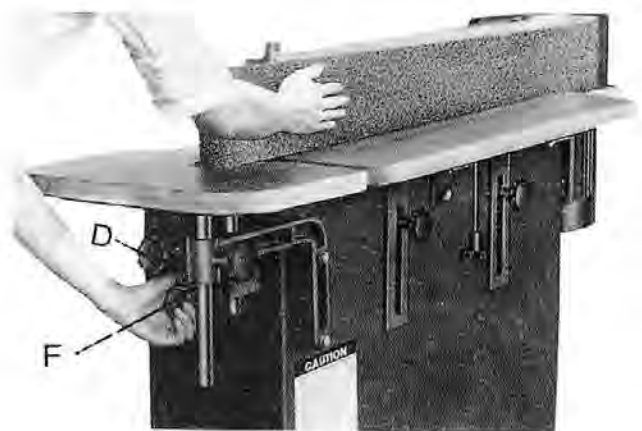

Fig.5.
5. Place the new abrasive belt between the contact wheel and idler pulley, then adjust the tension adjustment knob (D). Counterclockwise will maximize the tension, clockwise will minimize it.
6. Rotating the abrasive belt along the correct direction with one hand Fig. 5, you can test whether the abrasive belt tracking is correct or not on the machine, with your other hand correct the adjustment by using the track adjustment knob (F). If you want to lower the abrasive belt, rotate the track adjustment knob clockwise and vice versa. When suitable level is obtained, the abrasive belt will rotate steadily and have the same level.
7. After you finish the track testing, replace the safety guard (B) and close the dust-hood, tighten the knob.
9. Turn the machine on and off quickly several times to check whether the abrasive belt rotation is normal and whether the rotation track is correct or not. If not, you need to adjust track adjustment knob (F) as noted above in Fig. 5.
2. To determine the tracking situation of the abrasive belt, rotate the belt in the correct direction by hand, see Fig. 5.
3. While rotating the belt with one hand turn adjustment knob (F) with the other hand to get the correct tracking level. If the abrasive belt is too high, rotate the adjustment knob (F) clockwise; if the abrasive belt is too low, then rotate the adjustment knob (F) counterclockwise.